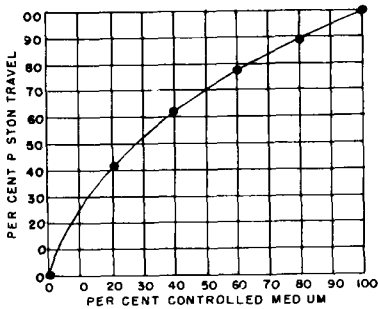

FIGURE 12 Drive Characteristics
1. Use straight line cam, B, to determine the actual controlled medium vs. power operator piston position characteristic (see Figure 12). (Determine piston position by observing the position indicator.)